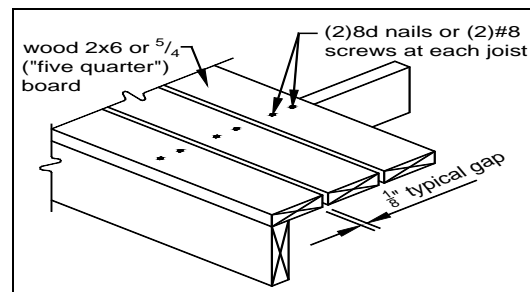

FIGURE 1: TYPICAL DECKING
- Attach wood decking in accordance with FIGURE 1.